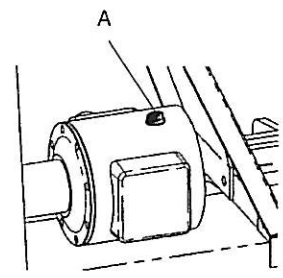

Fig. 3
2. The gearbox filled up to the level mark in the inside rod (A) (fig. 3). Capacity 1 l.